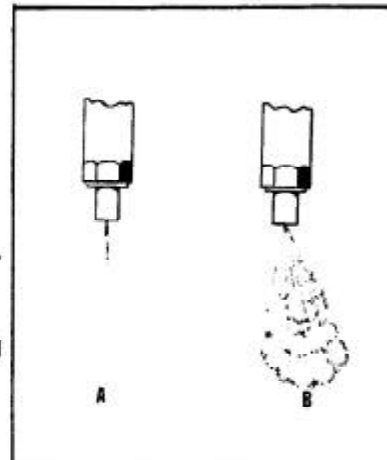

Fig. 8-6
- Using a sharp pull on the lever hand operate the fuel injection system. Nozzle should emit a fine narrow cone shaped fuel spray. A sharp "squeak" should also be heard. If any "flags" or "streamers" of fuel are observed, have nozzle replaced, see Fig. 8-6. It is wise to have new nozzle assemblies on hand so no time will be lost while the defective assemblies are being replaced.